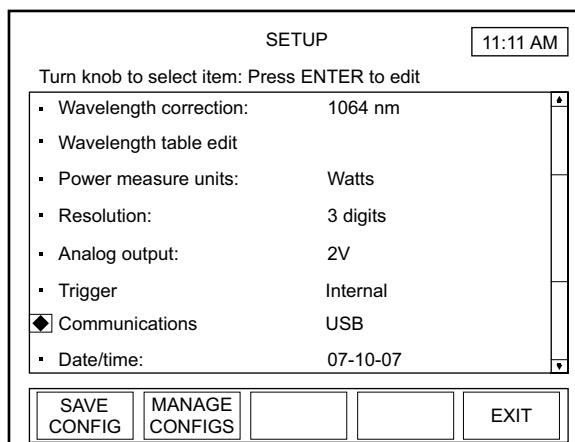

Figure 4-53. SETUP: Communications
1. On the main SETUP screen, turn the Selection knob to move the diamond indicator to Communications (Figure 4-53).